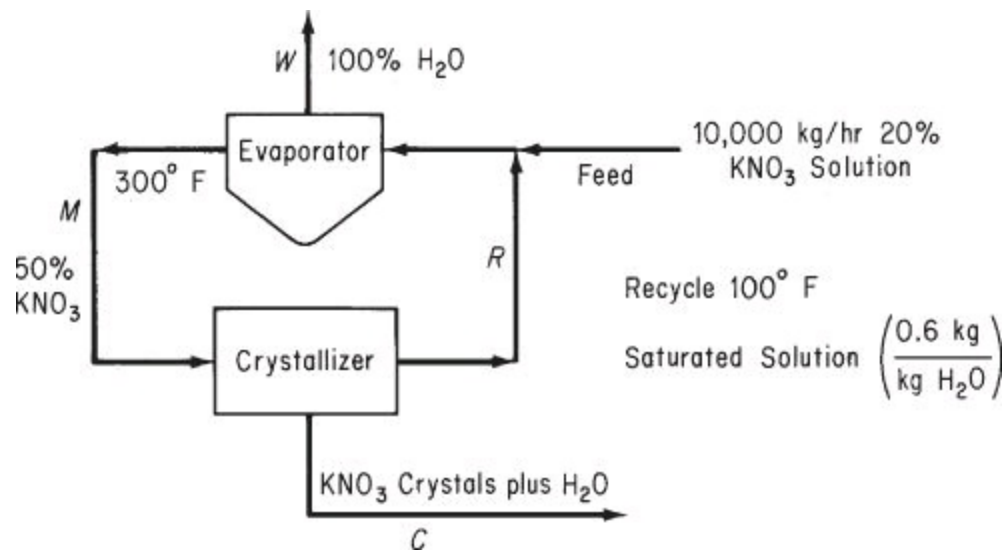

Figure P6.3.7
****6.3.7.** Examine Figure P6.3.7. What is the quantity of the recycle stream in kilograms per hour? In stream C the composition is 4% water and 96% KNO_3 .